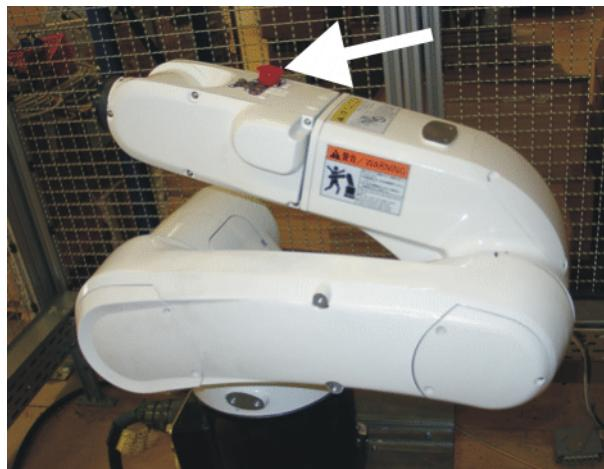

Fig. 11-31: Starting position A4
2. Move A4 so that the connections are on top as shown (>>> Fig. 11-31). Only from this position can A4 be correctly moved into the pre-mastering position.